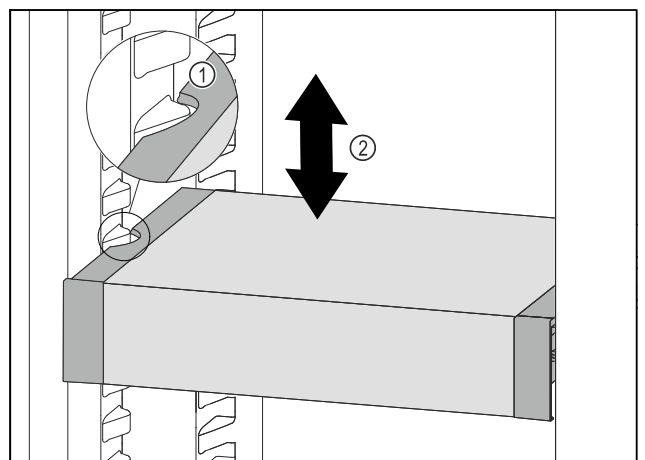

Fig. 116
- Pull VarioSafe forwards until the recesses in the side of the VarioSafe are at the level of the support rib in the refrigerator compartment. Fig. 116 (1)
- ▶ Move VarioSafe up or down in the refrigerator compartment until the desired height is reached. *Fig. 116 (2)*